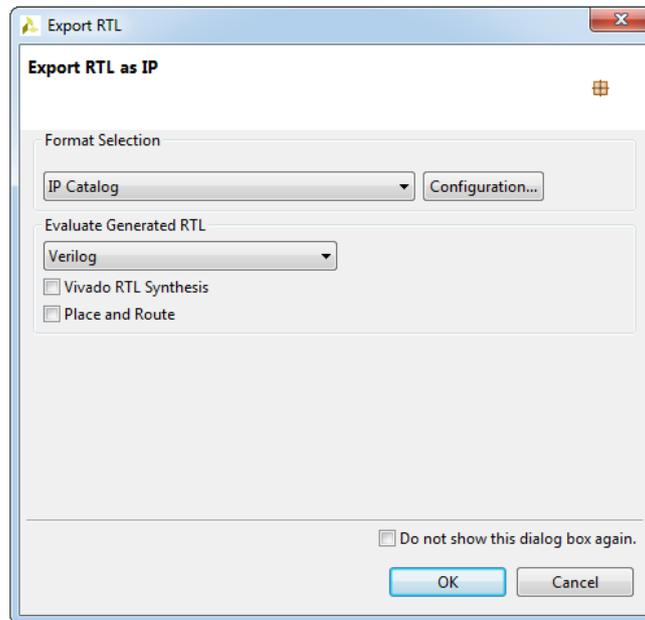

Figure 2.62: Export RTL dialog box
Step 2. In the **Export RTL** dialog box choose **IP Catalog** option from the **Format Selection** drop down list, see Figure 2.62.